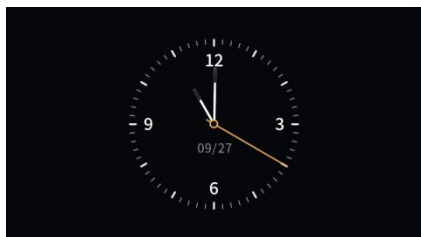

Fig.2.4.1
(1)Clock screen-saver shown as Fig.2.4.1, displayed after entering the screen saver. Digital clock shown as Fig.2.4.2, the type and numbers of air quality information is configured by ETS, which is up to 4 items. The three default pictures in the program are shown as in Fig.2.4.3, Fig.2.4.4 and Fig.2.4.5. The album can choose 1 or 3 pictures as the screensaver, display the first picture when the number of pictures is 1; It will automatically switch picture in every 5s when the number of pictures is 3.
(2) Inserting new pictures through the USB storage devices, specific steps are as follow: